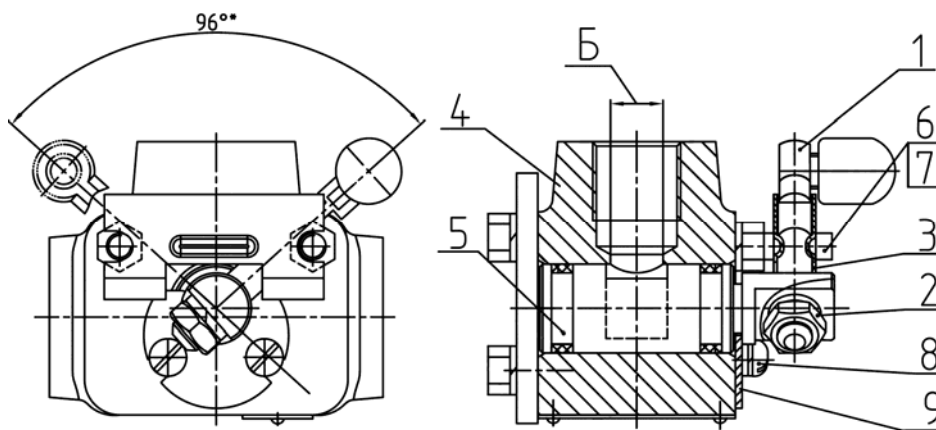

Figure 7.7
- 1) having unscrewed locking nut 2 (Figure 7.7), unscrew lever 1 off control valve 5 and remove stopper 3;
- a) lever 1 (Figure 7.7) must turn within stops 6 within angle of 96 degrees in extreme positions I and II (Figure 7.9), lever must be fixed with stopper 9 (Figure 7.7);
- b) put lever 1 (Figure 7.7) in position I, with slot «E» (Figure 7.9) of control valve being visible through both openings «B» and «Г»;
- c) put lever 1 (Figure 7.7) in position II (Figure 7.9), with slot «E» of control valve being visible through both openings «Г» and «Д»;